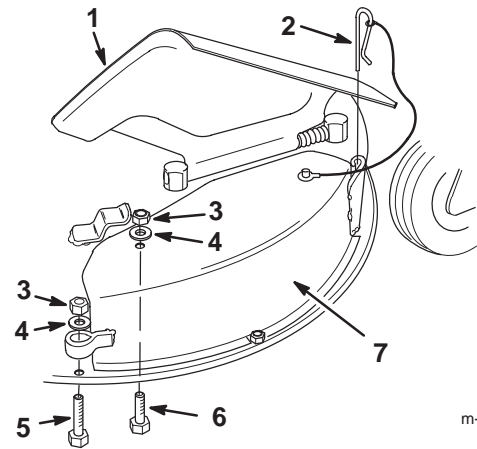

Figure 52
3. Raise the grass deflector and remove the chute pin on the front of the discharge cover (Fig. 52).
4. Remove the locknut, flat washer, and bolt (5/16 x 1-1/4 inch) holding the top of the discharge cover to the top of the mower (Fig. 52).
5. Remove the locknut, flat washer, and bolt (5/16 x 2-1/4 inch) holding the loop on the rear of the discharge cover to the deck ring (Fig. 52).
6. Remove the discharge cover from the mower (Fig. 52).